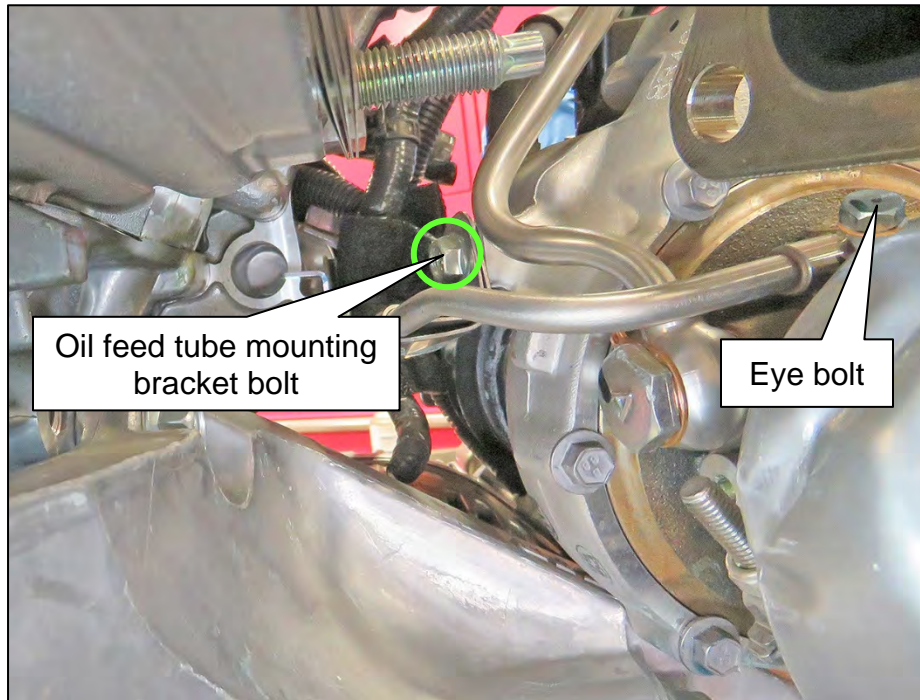

Figure 56
86. Install and temporarily tighten the eye bolt for the oil line, with a new gasket (Figure 56).
87. Reattach the oil feed tube mounting bracket with bolt (Figure 56) and torque to specification.